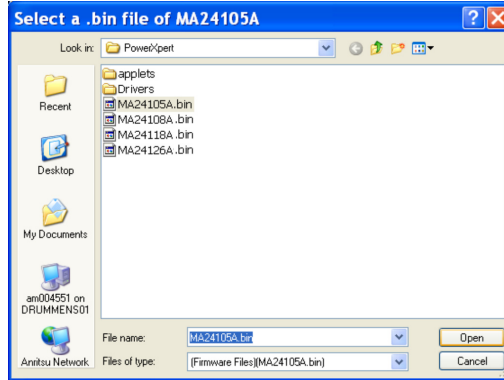

Figure B-14. Firmware File Access Verification
5. First the upgrade wizard verifies the firmware upgrade file is on your computer. A navigation window (Figure B-14 on page B-8) automatically opens to the default location C:\Program Files\Anritsu\PowerXpert\. If this is not the location to which you downloaded the file, you will need to navigate to its download location.